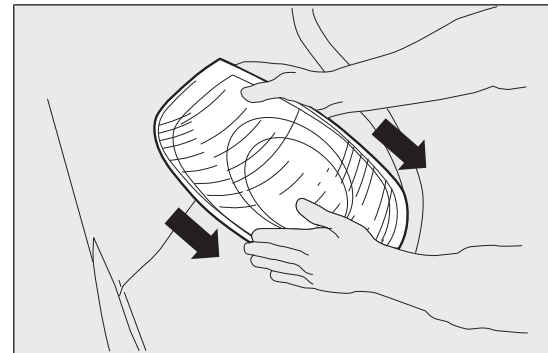

fig. 148
- extract the light cluster by removing it with both hands in the direction indicated by the arrows fig. 148;